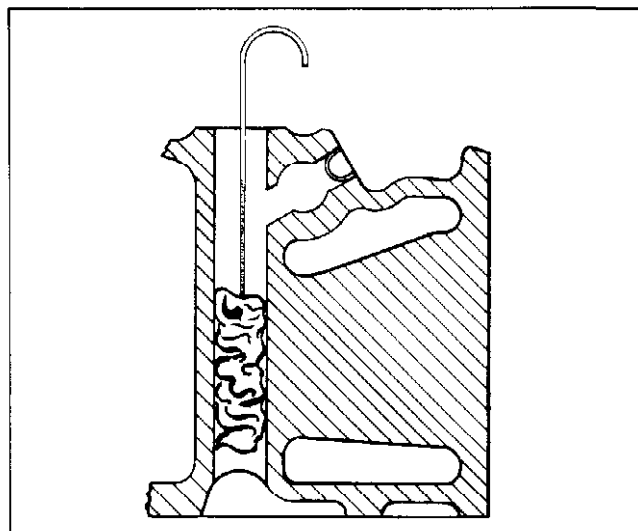

Fig. 6-27 Removing Oil Passage Plug
2. Attach wire to piece of rag (for removal) and push rag down into bolt hole past oil passage in which plug is located (Fig. 6-27).